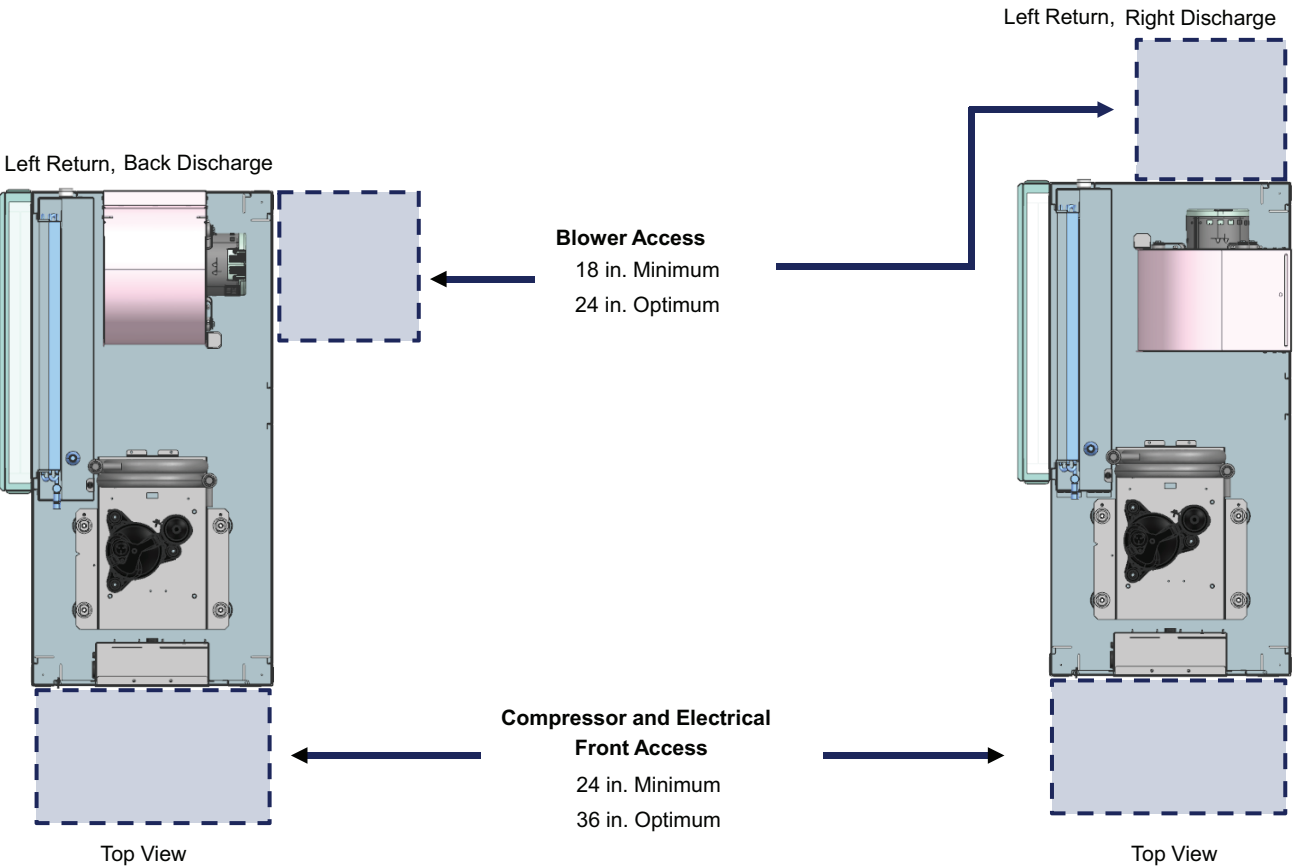

Fig. 4 — 50WC Service Clearance
6. Provide adequate clearance for filter replacement and drain pan cleaning. Do not allow piping, conduit, etc. to block filter access. See Fig. 4.
7. Provide sufficient access to allow maintenance and servicing of the blower and blower motor, compressor, refrigerant circuit, controls, and coils. See Fig. 4.
Locate the unit in an indoor area that allows easy removal of the filter and access panels, and has enough room for service personnel to perform maintenance or repair. Provide sufficient room to make fluid, electrical, and duct connection(s). If the unit is located in a confined space such as a closet, provisions must be made for return air to freely enter the space. See minimum service clearances in Fig. 4.